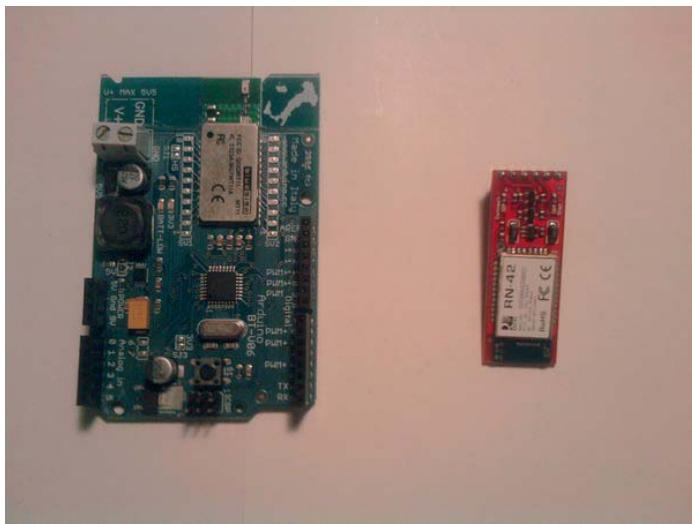

Figure 1-2. ArduinoBT (left) and Bluetooth Mate Silver (right)
- *ArduinoBT or Bluetooth Mate Silver:* I suggest using the Bluetooth Mate Silver modem for this book because it can make your Arduino Duemilanove or UNO behave like an ArduinoBT at half the cost. Also, the ArduinoBT does not have a 3.3V output point, so you would need to add circuitry to the Arduino in order to get 3.3V, which you need in Chapter 6 of this book. Figure 1-2 illustrates these two pieces of hardware.